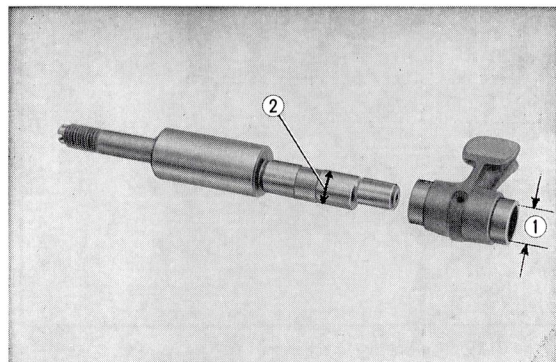

Fig. 3.32 Cam follower and Cam follower shaft
#### 1. Camshaft (Fig. 3.32, 33, 34)
| 1 | Cam follower bearing diameterFig. 3.32 ① | 10.20~10.218 mm(0.4016~0.4023 in)  | Replace if over10.28 mm(0.4047 in)  |
| 2 | Cam follower shaft journalFig. 3.32 ②    | 10.166~10.184 mm(0.3992~0.4009 in) | Replace if under10.10 mm(0.3976 in) |